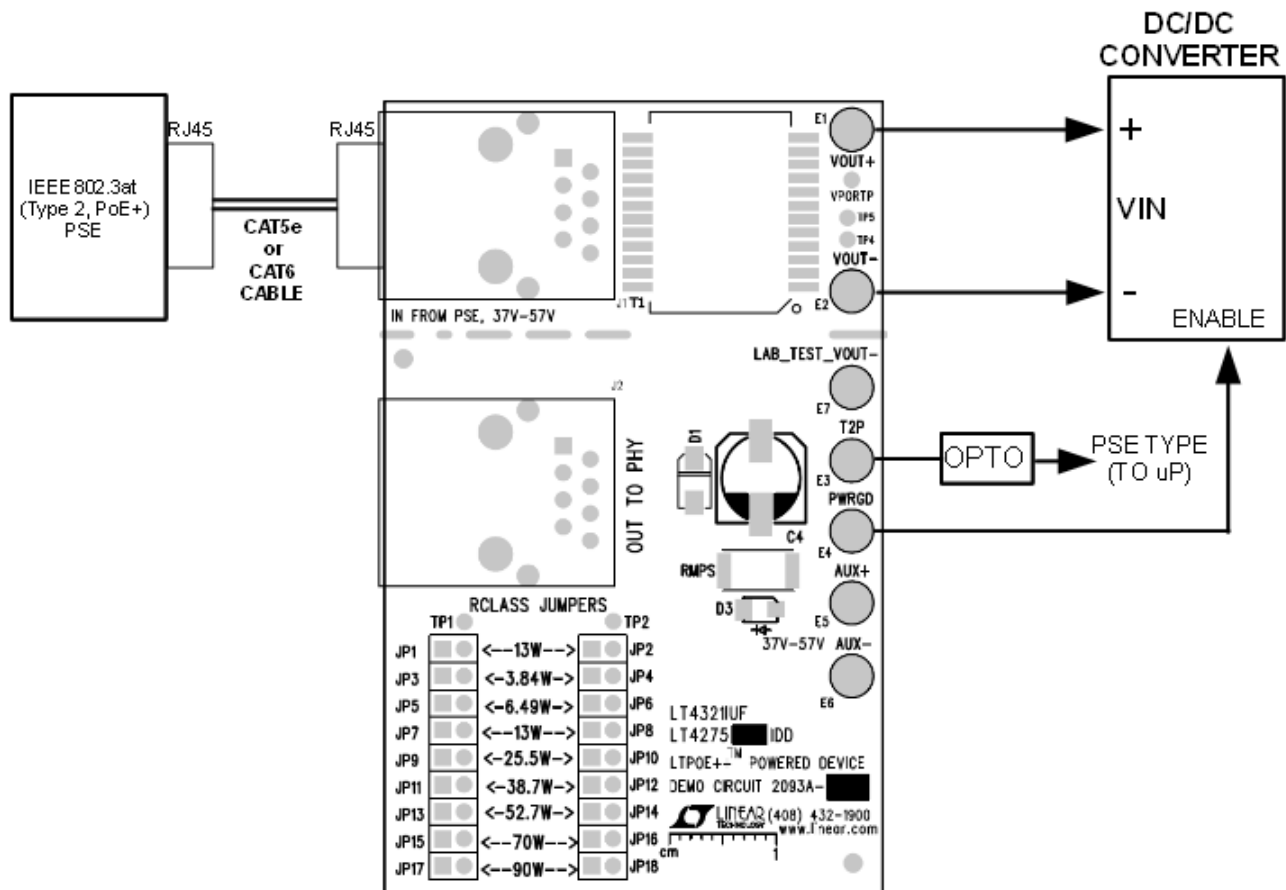
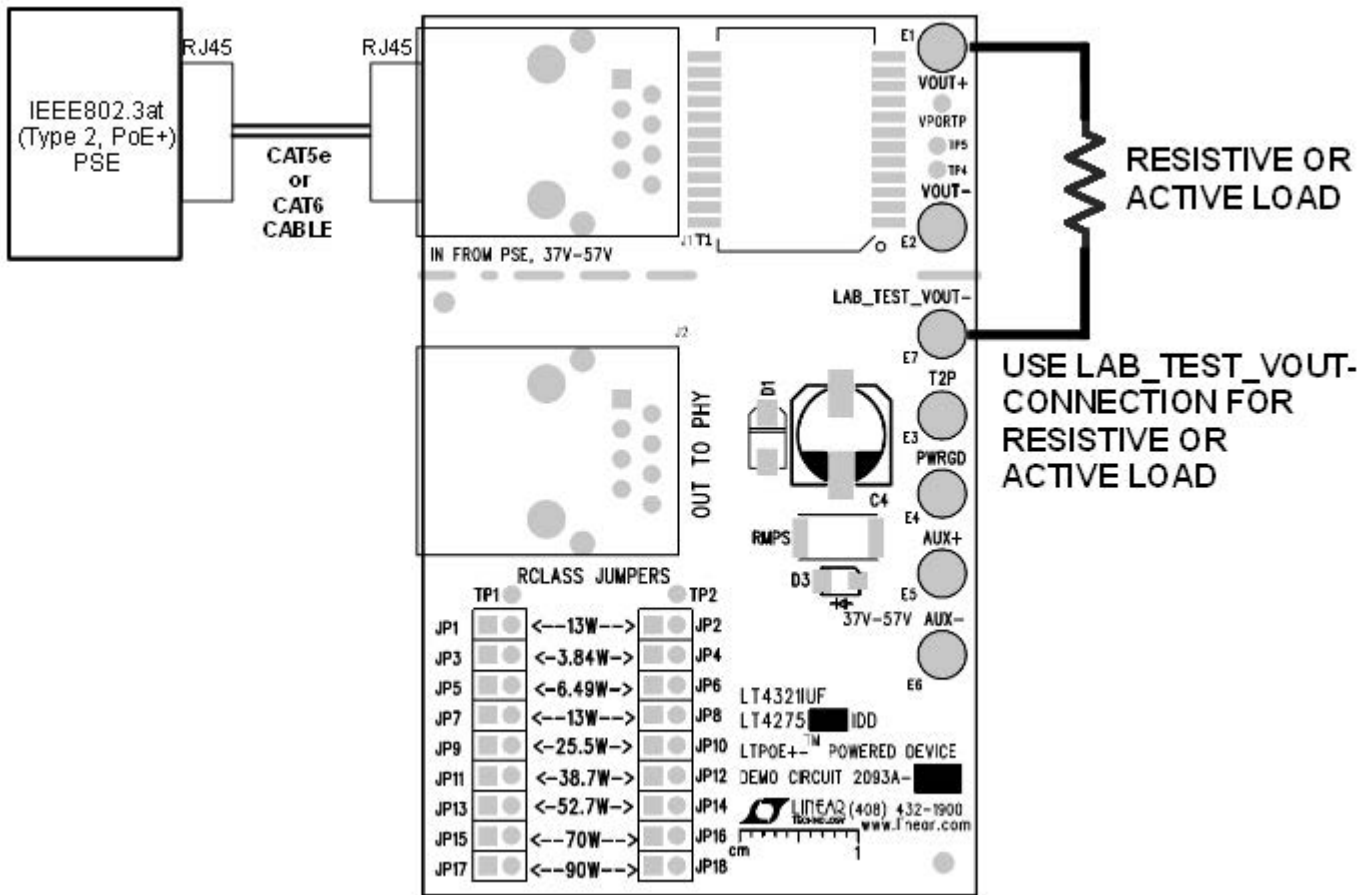

Figure 3. Setup Diagram for the DC2093A-B with a DC/DC Converter, a Microprocessor, and a Type 2 PSE
Figure 4. Setup Diagram for DC2093A-B with a Resistive or an Active Load
1. Refer to Figure 3 to evaluate the DC2093A-B with a DC/DC converter. If a resistive or an active load is used to evaluate the DC2093A-B, use the setup diagram as shown in Figure 4.